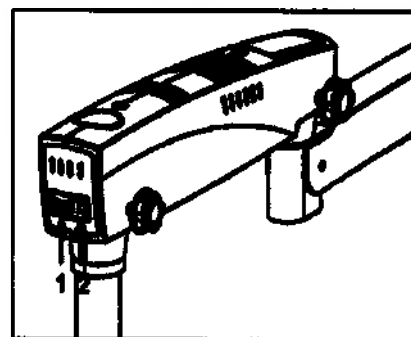

Fig. 15
8.1 Power switch control ON/OFF (on Fig. 15) is situated under rotary arm. In 'ON' position, green LED switches on and cooling fan is launched. Before switching on the microscope, adjust light control device at the minimal level.
Light control device is situated in front of the suspended arm. With the help of light control device vie field lightning can be adjusted. See figure 15.
This knob helps to lock movements of the rotary arm, lock the position after initial focusing of the interest range by means of clockwise rotation of the knob. See fig. 15.
This knob locks suspended arm movement in any positional suitable for you by means of clockwise rotation of the knob. See fig. 15.